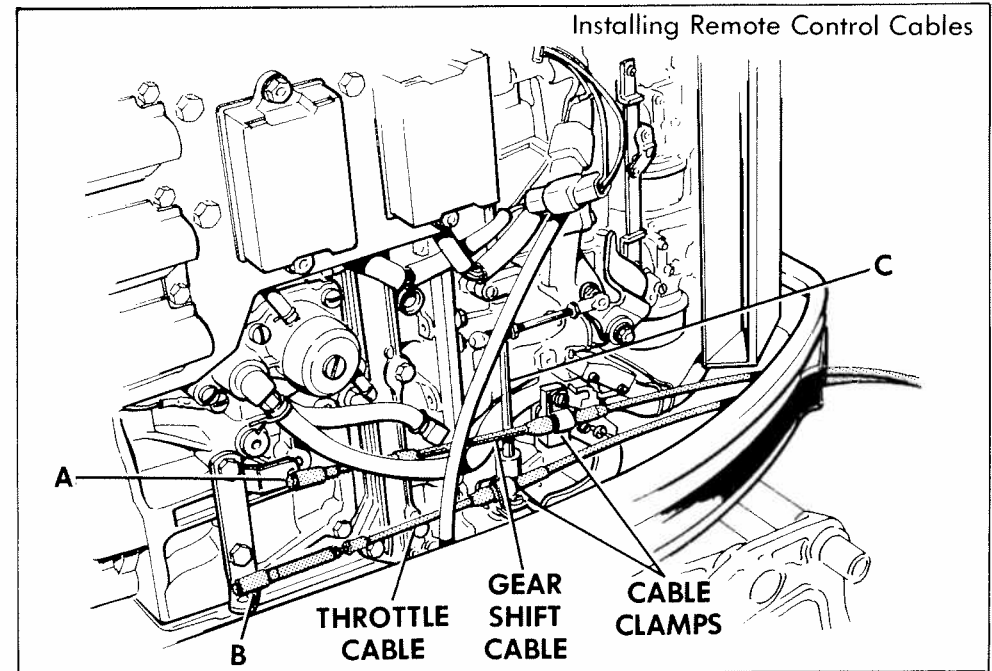

FIGURE 3
1. Route control cables into cable guide with throttle cable on bottom. Route cables behind fuel and drain lines back to control cable connecting points (A) and (B). (See Figure 3.)
Pull back on the sleeve until the connector drops in place over the rod end connector stud (B). Slide sleeve forward to lock in place. (See Figure 3.)